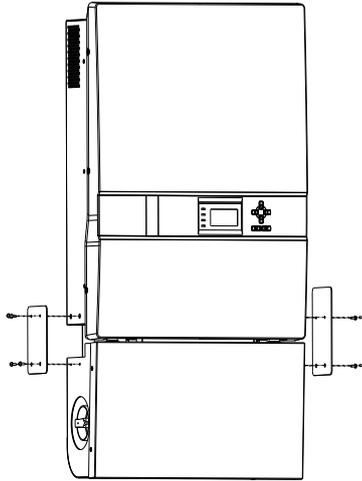

Figure 6-13 Securing panels on both sides
- (7) Put the two removed panels back and secure the M4 screws on both sides with a torque value of 1.76N-M (15.6Lb-In.), as shown in Figure 6-13. (Tool: PH2 cross screwdriver)